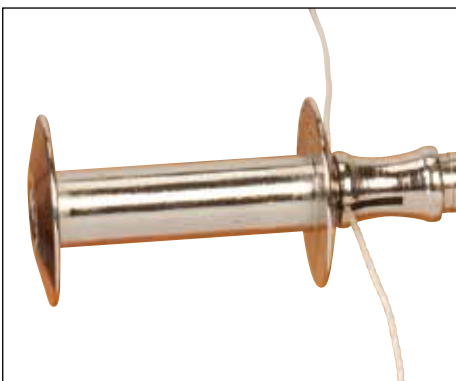

Figure 11
- 1) Bring the thread from the spool through the split end of the bobbin winder, then place the bobbin on the bobbin winder. **(Figure 11)**